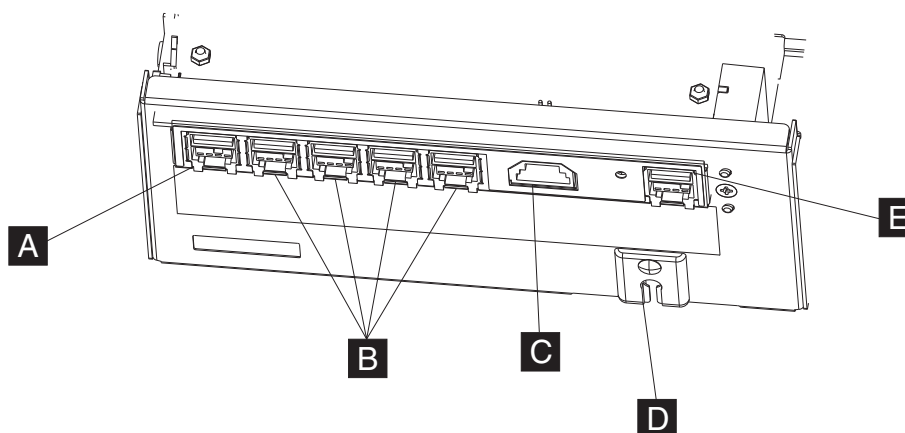
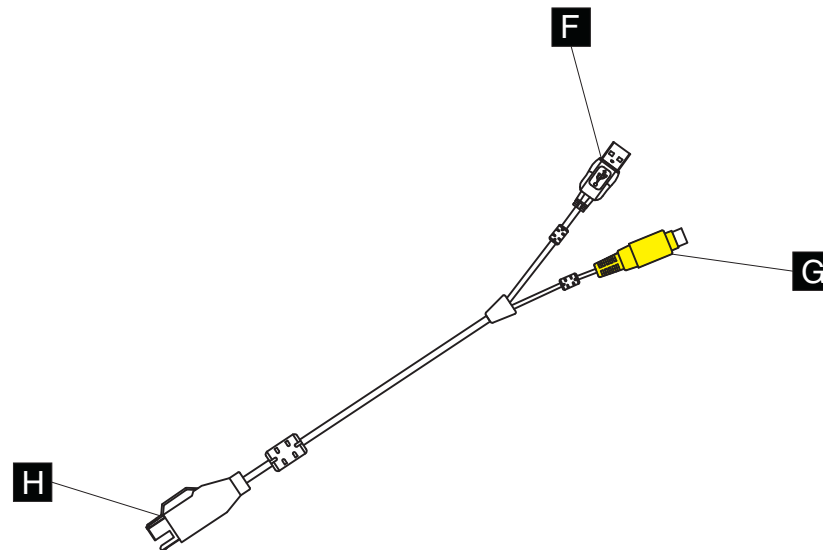

Figure 9. AnyPlace POS Hub power outputs
Figure 10. AnyPlace POS cable connectors
- E** The AnyPlace POS cable connector, which connects the AnyPlace POS Hub to the AnyPlace Kiosk (or other host system unit) and has a positive retention (latching) connector. At the kiosk, or host system unit end, the AnyPlace POS cable has two connectors as shown in Figure 10 on page 15:
2. Review Figure 9 on page 14 and connect your peripheral units to the hub. Connect the AnyPlace POS cable (**D** in Figure 9 on page 14) to the USB port directly adjacent to the power input port, and to the IBM AnyPlace Kiosk.
Note: Plugs **F** and **G** in Figure 10 must remain connected while the IBM AnyPlace Kiosk and hub are turned on. Removing the USB hub (**E** in Figure 9 on page 14) will shut off the kiosk.